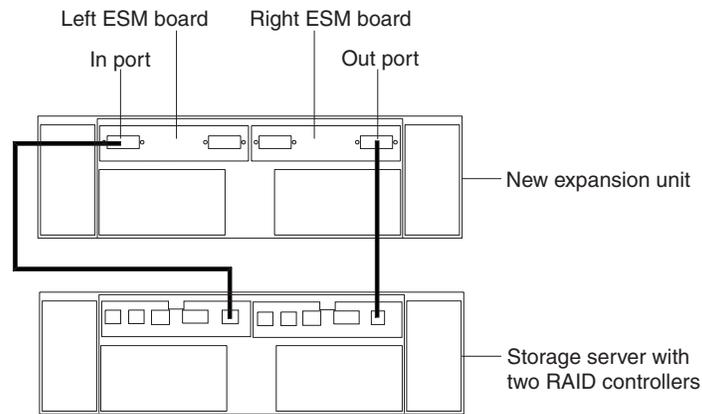

Figure 41. Adding an expansion unit
2. Use the following procedure and Figure 41 on page 43 to connect a single expansion unit to the storage server: